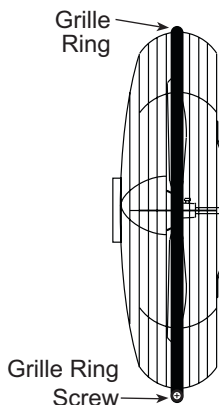

FIGURE 4
2. Disassemble Grilles by carefully removing the Grille Ring Screw on the bottom of the grille and removing the Grille Ring. See Figure 4.